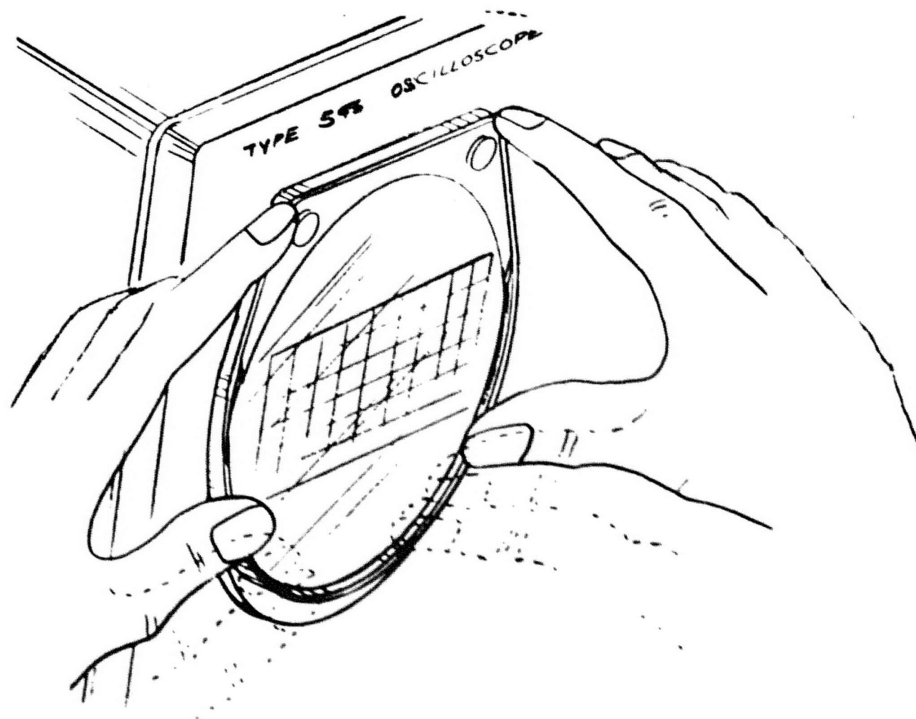
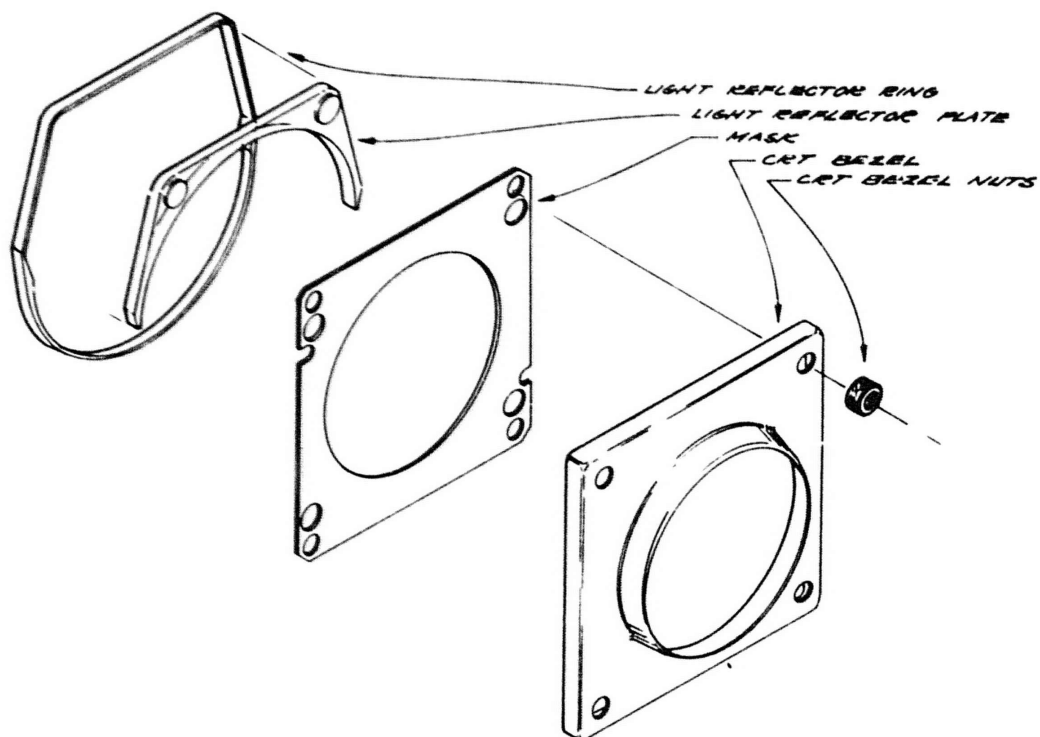

Fig. 1. Installing Light Reflector Ring and Plate.
Fig. 2. Installation of CRT Bezel Assembly.
- () 16. Install the new light reflector plate, the light reflector ring, the graticule mask, and the graticule bezel as shown in Fig. 1 and Fig. 2. To install the light reflector ring and plate, hold the ring in place with the forefingers of both hands as shown in Fig. 1. Then slide the thumbs down to snap the bottom of the ring in place.